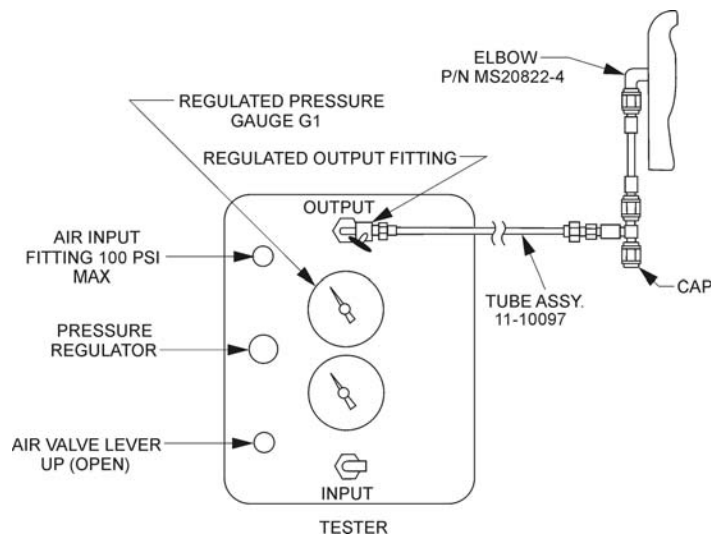

Figure 2. Connections for Magneto Air Flow Check
B. Magneto Air Leakage (Figure 2):
- B2. Install cap on open end of tee. See Figure 2.